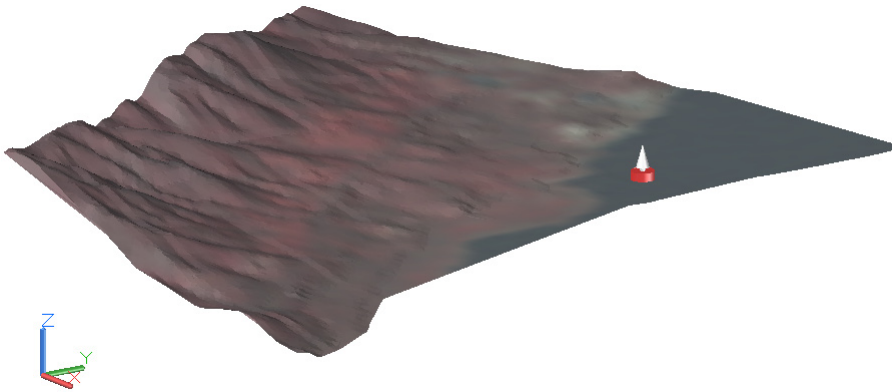

Figure 3-79 The surface with the draped raster image
4. Choose the **Orbit** tool from the **Navigation 2D** panel of the **View** tab and orient the drawing to a suitable viewing angle. Exit the **Orbit** tool by pressing the ESC key. The drawing area now shows the surface with draped raster image, as shown in Figure 3-79.